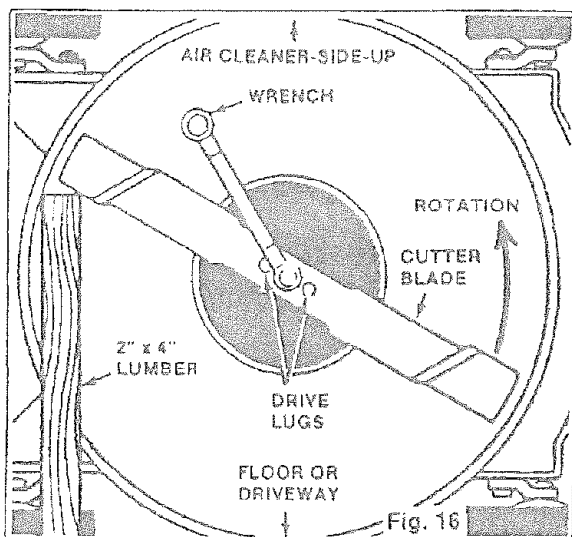

Fig. 16
- As shown in Figure 16, use a piece of 2" x 4" lumber about 14" long (rough metric equivalent: 4 x 9 x 35 cm) as a stop. Insert the stop between the cutter blade and the floor.
- Install sharp cutter blade as shown in Figures 16 and 17. Be sure blade is correctly mounted on the adaptor. Install the lockwasher and bolt and make the bolt finger tight.